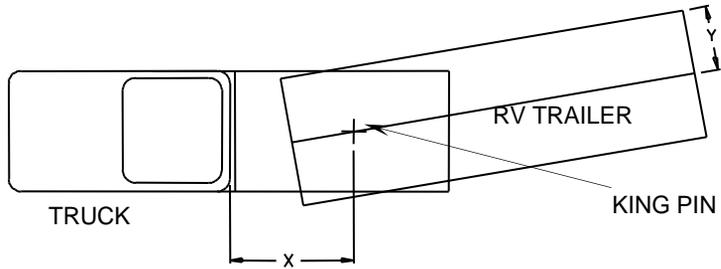

Figure 13
- King pin weight must not exceed 5,000 pounds (Figure 13). If in doubt have king pin weight measured by qualified facility.
4. Approximately 15%-25% of trailer weight should be on hitch (Pin Weight). See Figure 13.